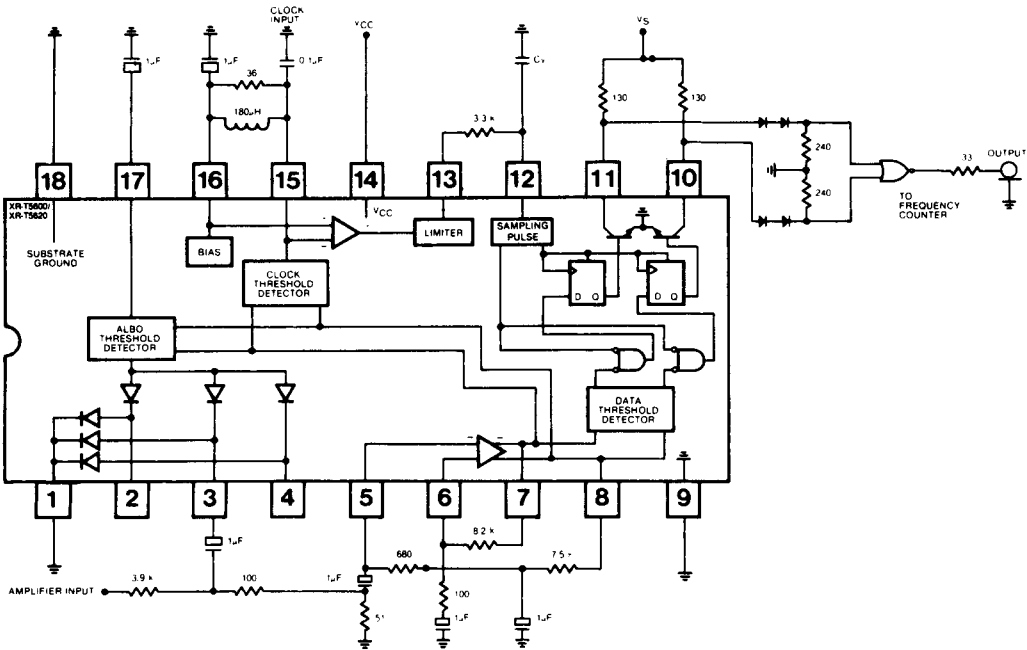

Figure 4. Sampling Pulse Test Circuit
Sample Pulse Width (Ref. Figure 4, $C_Y = 27\text{pF}$)
- 2) Sample pulse width is specified with a 2.048MHz TTL waveform at clock input (Pin 15) and a 2,400MHz Schottky TTL waveform at amplifier input in the circuit of Figure 4. Figure 7 shows the relevant IC waveforms.
Sample Pulse Generator Input Waveform (Pin 12 — Ref. Figure 4, $C_Y = 40\text{pF}$)